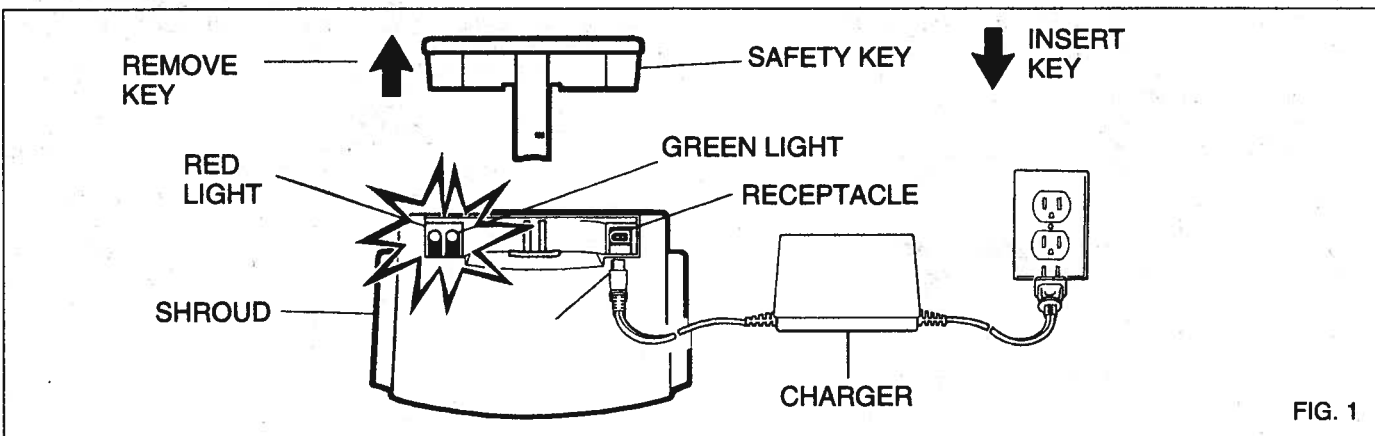

FIG. 1
Step 1: The recharge cycle is indicated by the illuminated red light (Fig. 1).
Step 2: The maintenance cycle is indicated by the illuminated green light (Fig. 1).
2. Plug the charger connector into the receptacle on the mower (See Fig. 1).
2. Ensure that the handle lock is on the opposite side of the discharge chute (See Fig. 1)
In order to prevent accidental start-up or unauthorized use of your Cordless Mower, a removeable Safety Key has been incorporated into the design of your mower. The mower will be completely disabled when the Safety Key has been removed from the mower. With the Safety Key removed, you will have access to the receptacle and red and green charge indication lights. See (Fig. 1) **NOTE: THE SAFETY KEY HAS A HOLE IN THE CENTRE TO ALLOW FOR STORAGE ON A NAIL, OUT OF THE REACH OF CHILDREN.**